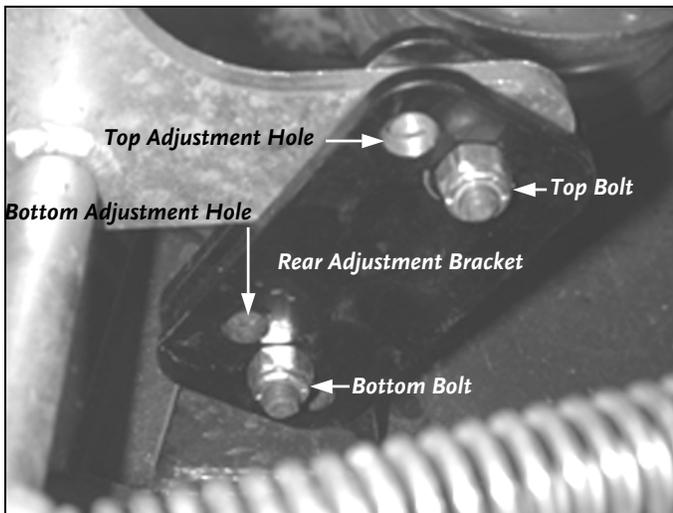

Figure 25
2. Using a 1/2" Wrench, adjust the Deck from front to rear as needed by moving the Top and/or the Bottom Bolt to a different Hole in the Rear Adjustment Bracket (**Figure 25**).